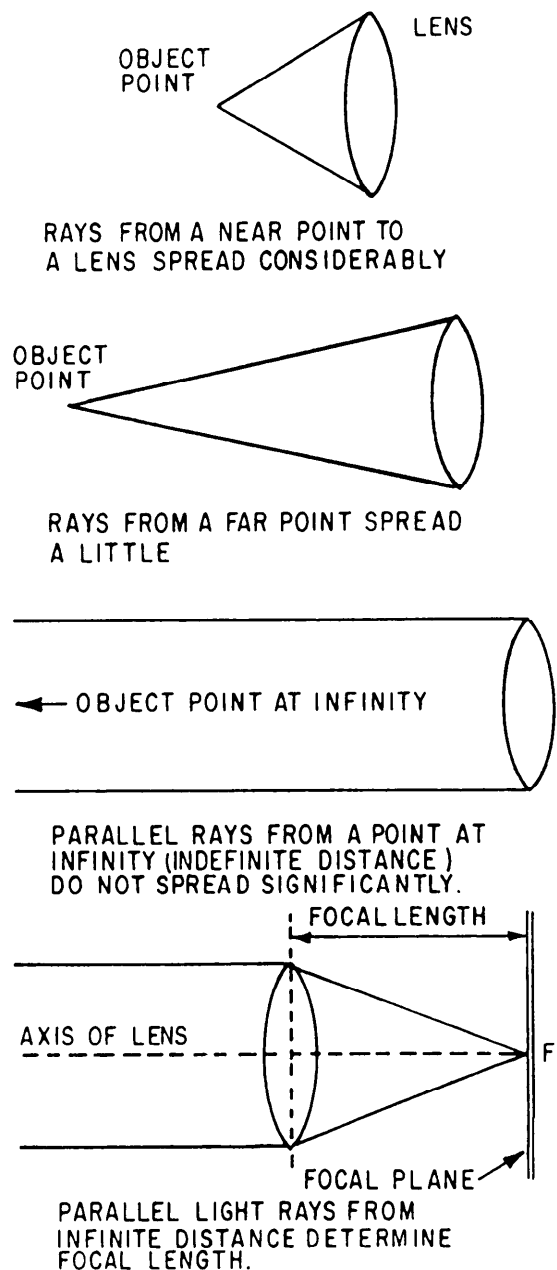

Figure 1-18.—Effects of lens-to-subject distance on light rays.
- Infinity-This term is not easily described. When light is reflected from the point of an object, the closer the point is to the lens, the greater is the angle of the spread of light rays from the object (fig. 1-18). As the